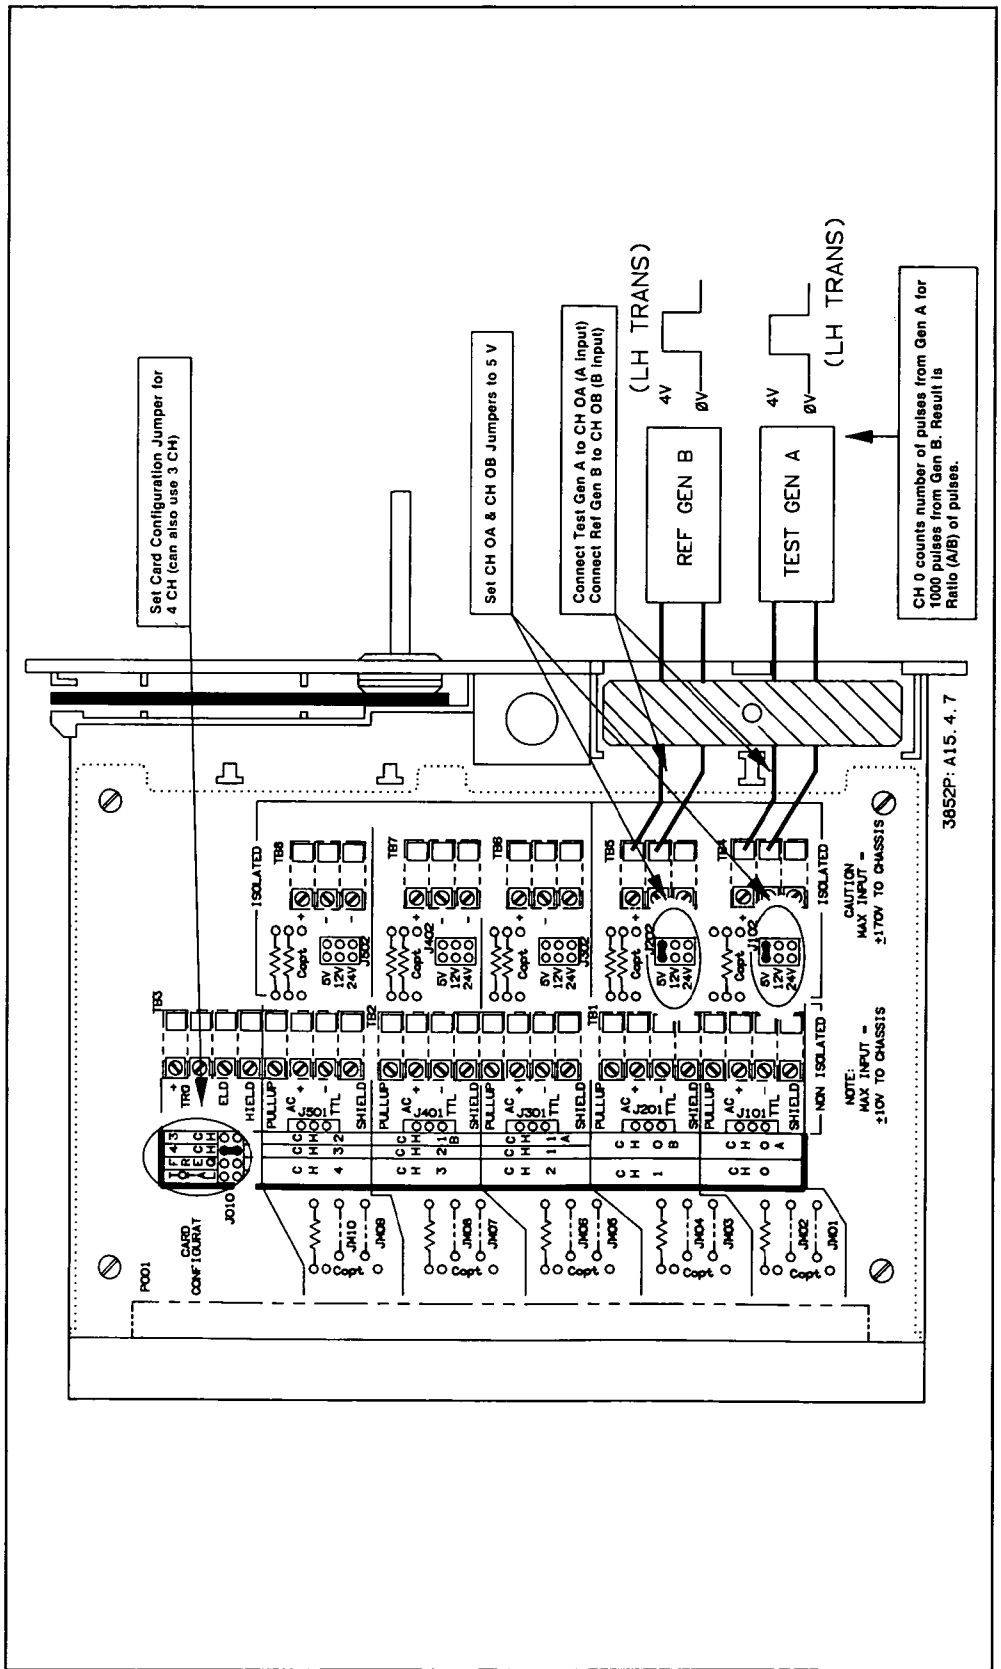

Figure 4-7. Example: Measure Ratio
**Example: Measure Ratio** This example program measures the ratio of the number of pulses output from a test pulse generator (A) to 1000 pulses output from a reference pulse generator (B). When the measurement is complete, a MC interrupt is generated and the interrupt time and ratio (A/B) are returned. See Figure 4-7 for typical connections and counter configuration for channel 500 of a counter in slot 5 of the mainframe.